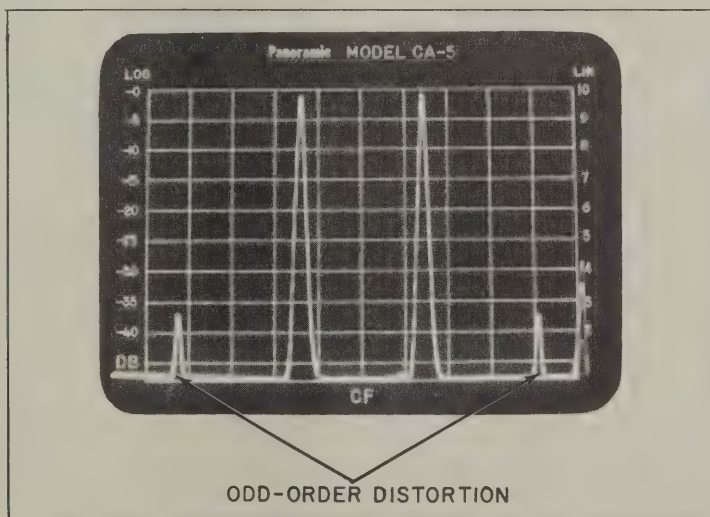

Figure 2-5. Typical CRT Presentation of Two-tone Test
d. Odd-order distortion components are distributed symmetrically on either side of the main output signals and are located at separations equal to the frequency difference between them. The distortion components may be readily read as "dB down" from the reference levels. The third-order distortion components (first distortion pips) are usually the largest. Figure 2-5 illustrates a typical CRT presentation of a two-tone test.